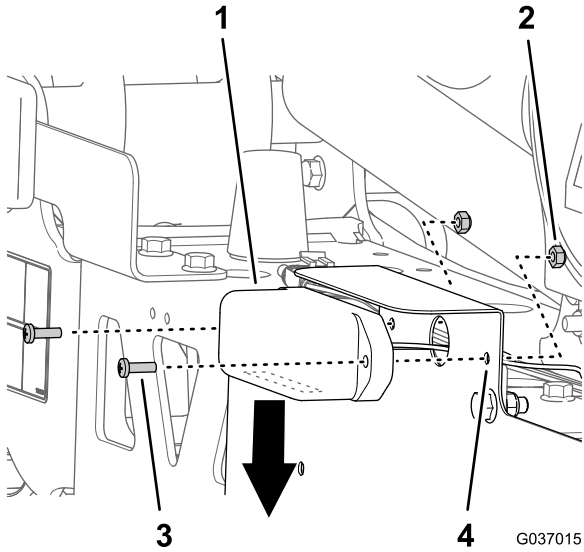

Figure 41
- Align the lens for the light down and the holes in the light with the holes in the license-plate bracket (Figure 41).
- Assemble the light to the bracket (Figure 41) with the 2 screws (#10 x 5/8 inch) and 2 locknuts (#10).